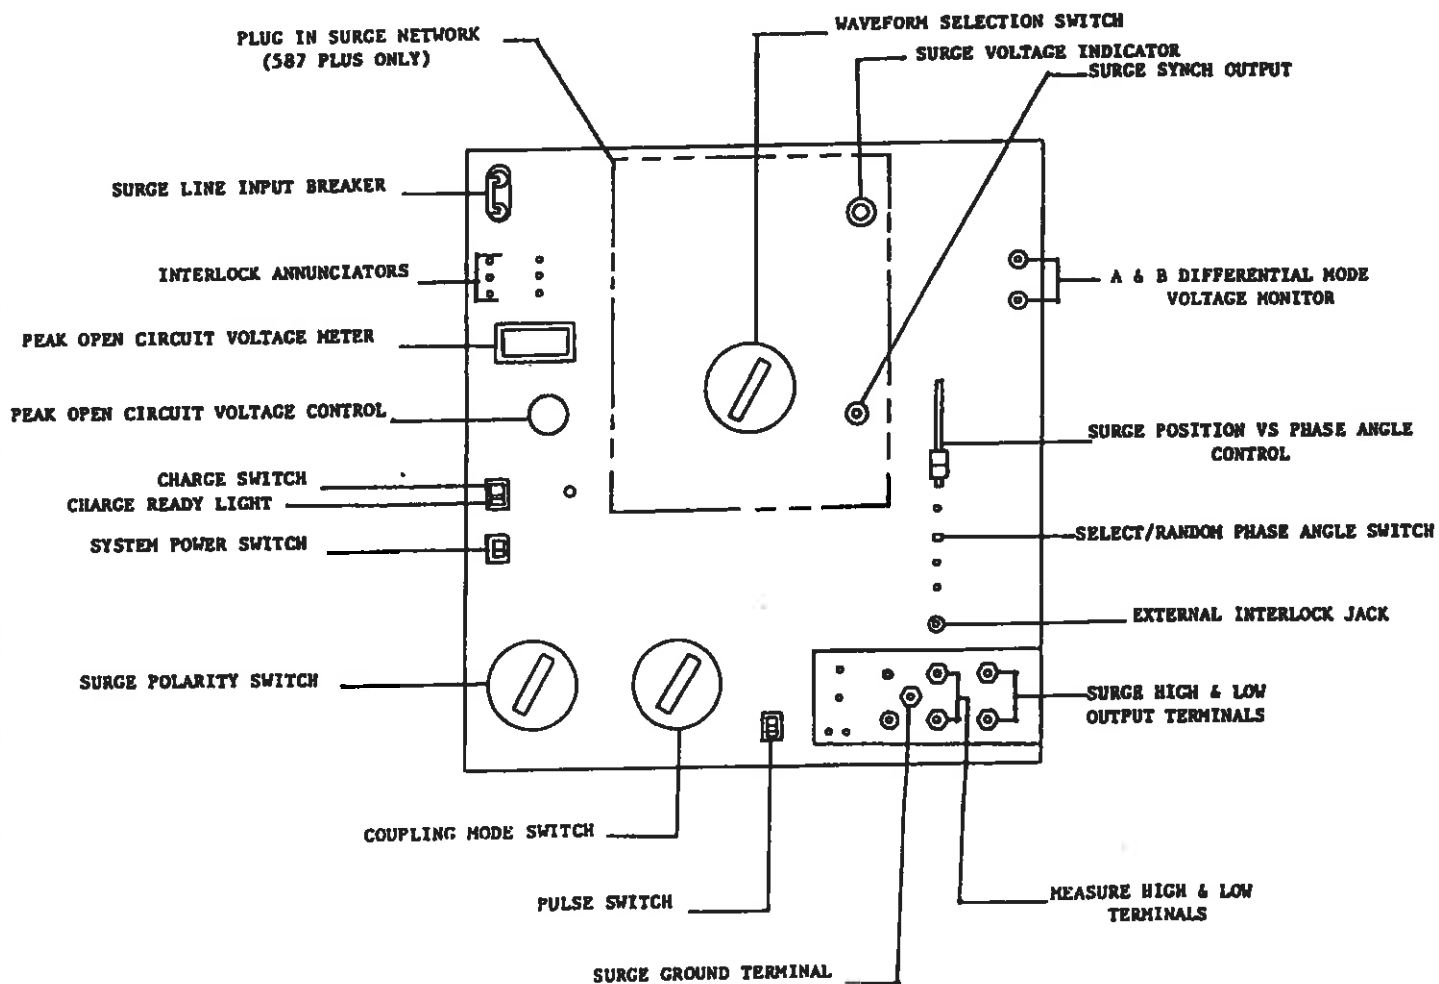

Figure 1-1
1. Make sure the power ON-OFF switch and SURGE LINE INPUT breaker switch (Fig. 1-1) are in the OFF position.
1.2 Initial Turn-On (Refer to Fig. 1-1 for location of controls and indicators.)